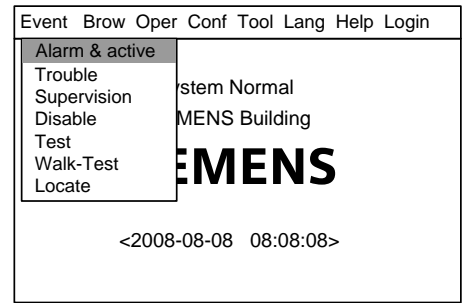

Fig.29-1
1. Press "Menu" to browse the main menu (Fig. 29-1)